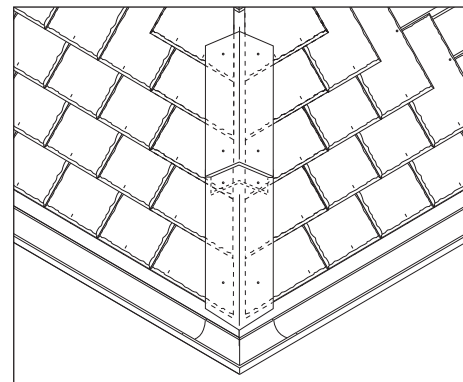

Fig. 20 – Fibre cement duo pitch ridge units used as hip capping
- 5 Fix subsequent units up the hip, sealing the joints with 6mm diameter butyl strip (Fig. 20).